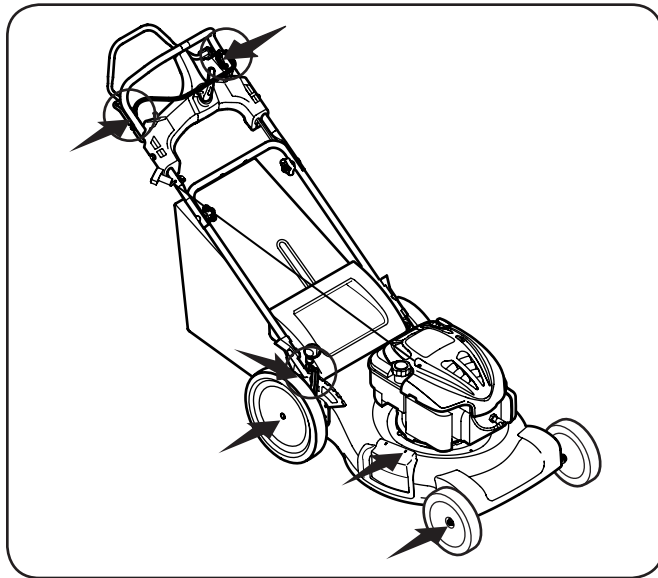

Figure 6-1
1. Lubricate pivot points on the blade and drive controls at least once a season with light oil. These controls must operate freely in both directions. See Fig. 6-1.
2. Lubricate the wheels and rear wheel gears at least once a season with light oil (or motor oil). If wheels are removed for any reason, lubricate surface of the pivot arm and inner surface of the wheel with light oil. See Fig. 6-1.
3. Lubricate the torsion spring and pivot points on the rear discharge door and side mulch plug periodically with light oil to prevent rust. See Fig. 6-1.